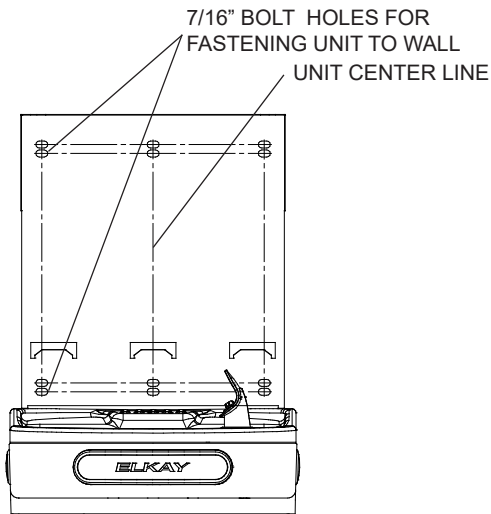

Fig. 4
- 2) **Remove wall mounting plate from Bottle Filler.** Place wall plate against wall on top of basin. Center the wall plate side to side with the basin. Mark the six (6) mounting holes with a pencil (See Fig. 4).
- 4) **Install wall mounting plate to wall** using six (6) 7/16" obround mounting holes (mounting bolts not included) (See Fig. 4). Use appropriate fasteners for your wall type.